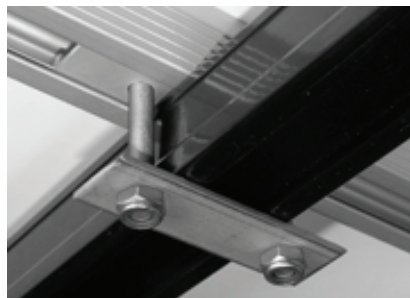

Figure 4
3. Attach the rooftop tent to your roof rack or roof bars in four places as per Figure 4. Use 2 bolts and 2 slide plates with the base plate to hug the bar. 1 set per corner.